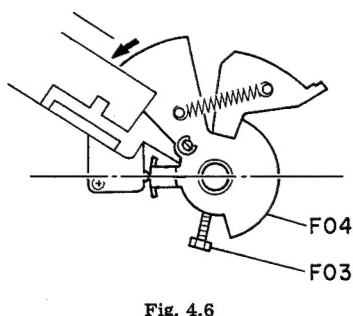

Fig. 4.6
- (4) Turn F04 and align so that it is located as shown in Fig. 4.6. Tighten F03 with a socket wrench. Be sure that the Sensor Arm stays on the Sensor Arm Rest.